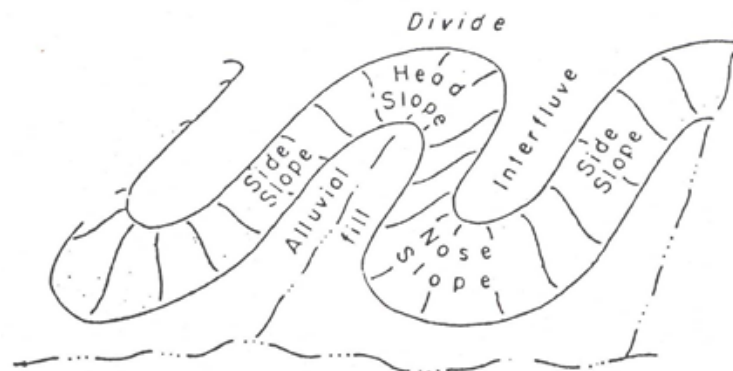

Figure 1. Erosional landforms.
(2) **Erosional landforms**, carved by running water, occur in the region. Contestants should be able to recognize the erosional landforms, which are shown schematically in Figure 1. This is a large-scale consideration. Observe how this concept is used on the practice sites. If the soil developed in transported materials, do not use erosional landforms. Erosional landforms should be used only if pediment, residuum, or bedrock is the lowest parent material.